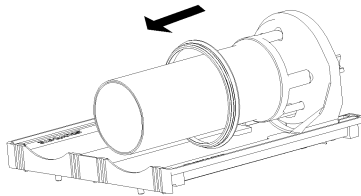

figure 5
5.Remove the bowl gasket from its seat(fig .5)